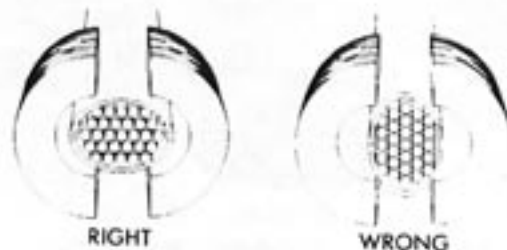

FIGURE 23 - SHAPING CABLE
8.05 Before applying End Plates, oval cable slightly to prevent pinching sheath and apply End Plates over oval as shown in Figure 23.